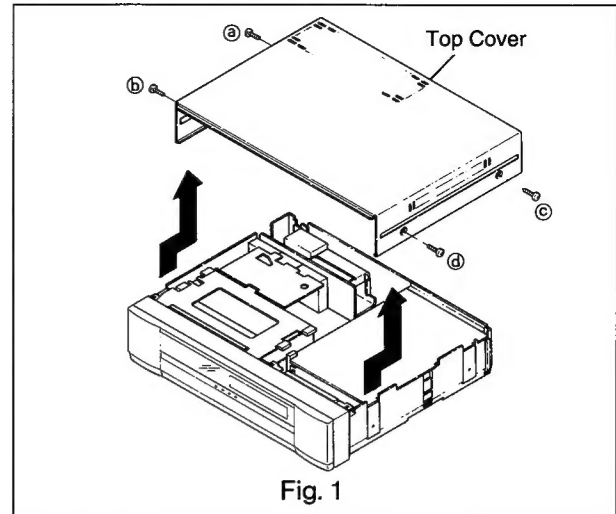

Fig. 1
- A. Remove the four screws (a~d) retaining the Top Cover, as shown in Fig.1.